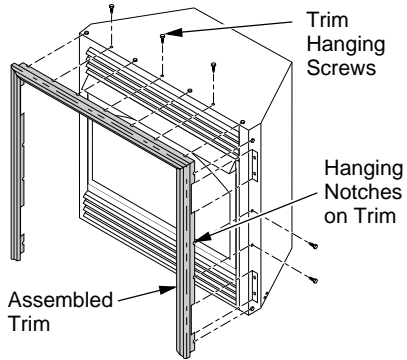

Figure 7 - Attaching Perimeter Trim to Fireplace (VSGF33NRB Shown)
8. Tighten trim hanging screws (#10 x 6.25 shoulder) into holes in cabinets. Place the assembled trim onto fireplace cabinet. Align hanging notches on trim with hanging screws on side of fireplace (see Figure 7). Push trim firmly into place, sliding hanging notches over hanging screws.
- Install trim after final finishing and/or painting of wall (see Figure 7, page 9).